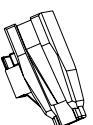

Figure 1
2. Place the microphone adapter on the microphone boom and slide it to end of the microphone pushing it tightly up against the microphone —see *Figure 1*.